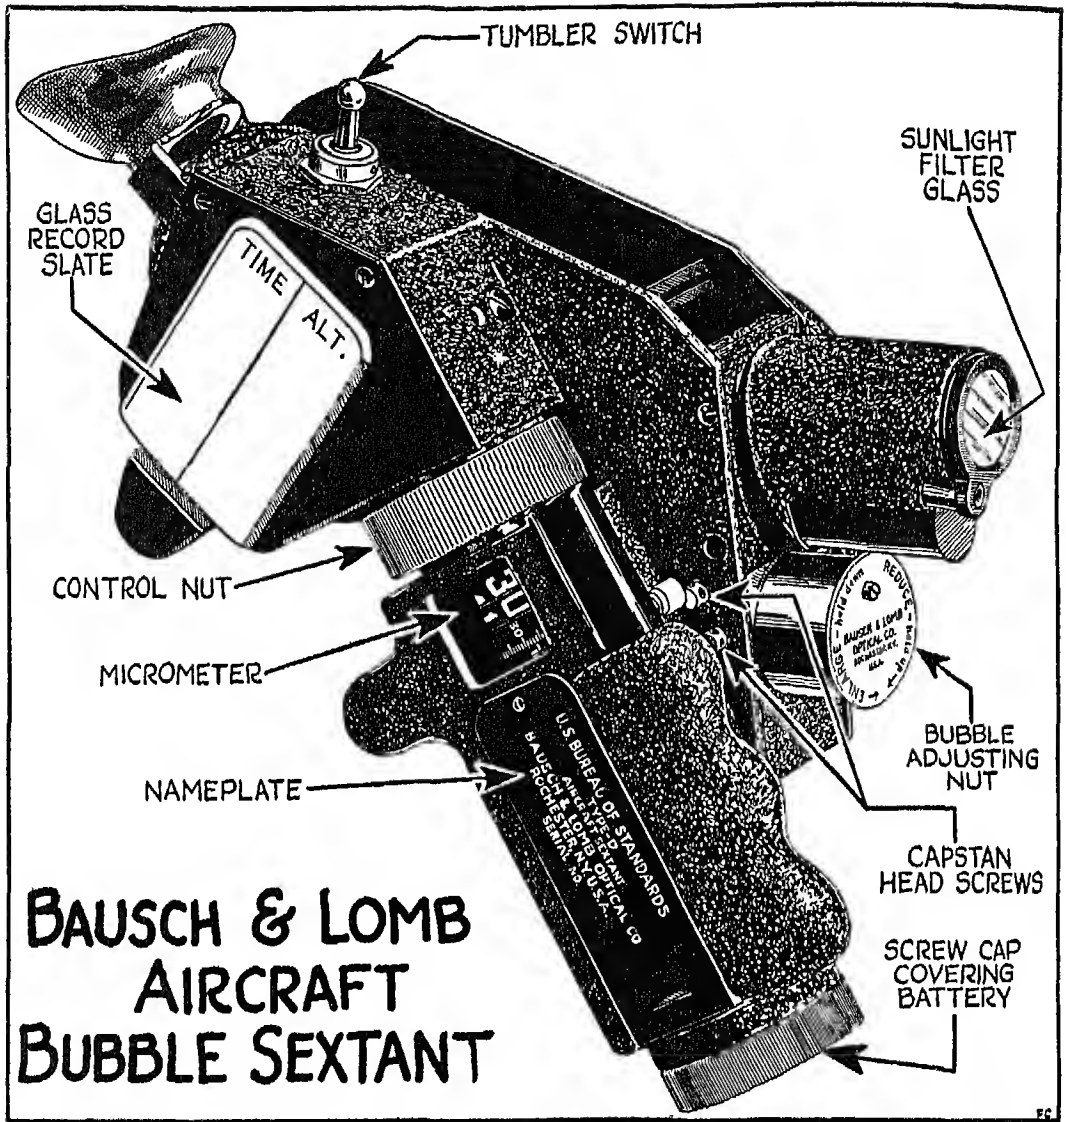

FIG. 304
1. Take your bubble sextant (Fig. 304) and measure the altitude of a celestial object.
FIG. 304. It has been found by experience that a bubble sextant, such as the Bausch and Lomb instrument shown here, is the most practical for aircraft use. Bausch and Lomb sextants have been used by Lindbergh, Gatty,